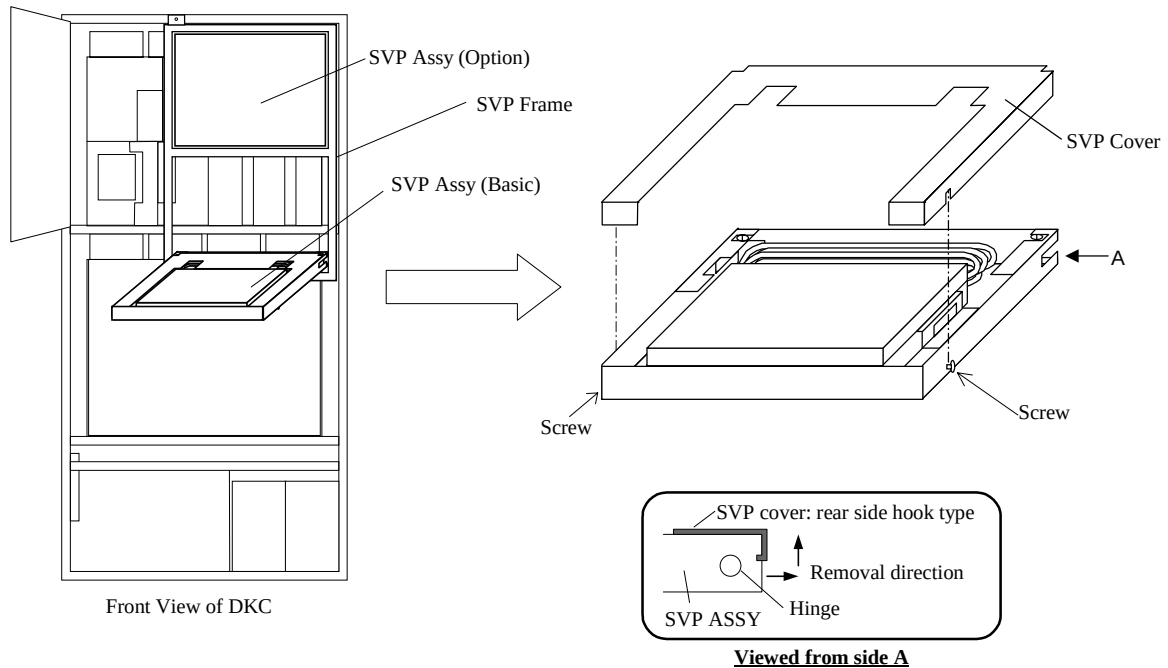

Fig. 3.18-11 Removing SVP cover
- c. Attach the SVP cover. (See Fig. 3.18-11.)